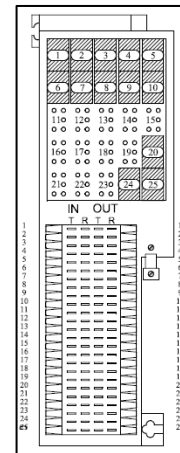

Figure 5
- 1.6.2** Punch outgoing copper pairs of Station Cable of the OEI onto the right-hand side, or “**Out**”-side, of the 25-pair solid state protector block. See Figure 5. The “**Out**” side of the protector block always “points” to the world outside of the HVI, be it in the substation or in the PSTN. The pre-installed protector block is pre-connected to ground bar installed on the backboard. Refer to Section 1.2 for notes on grounding.